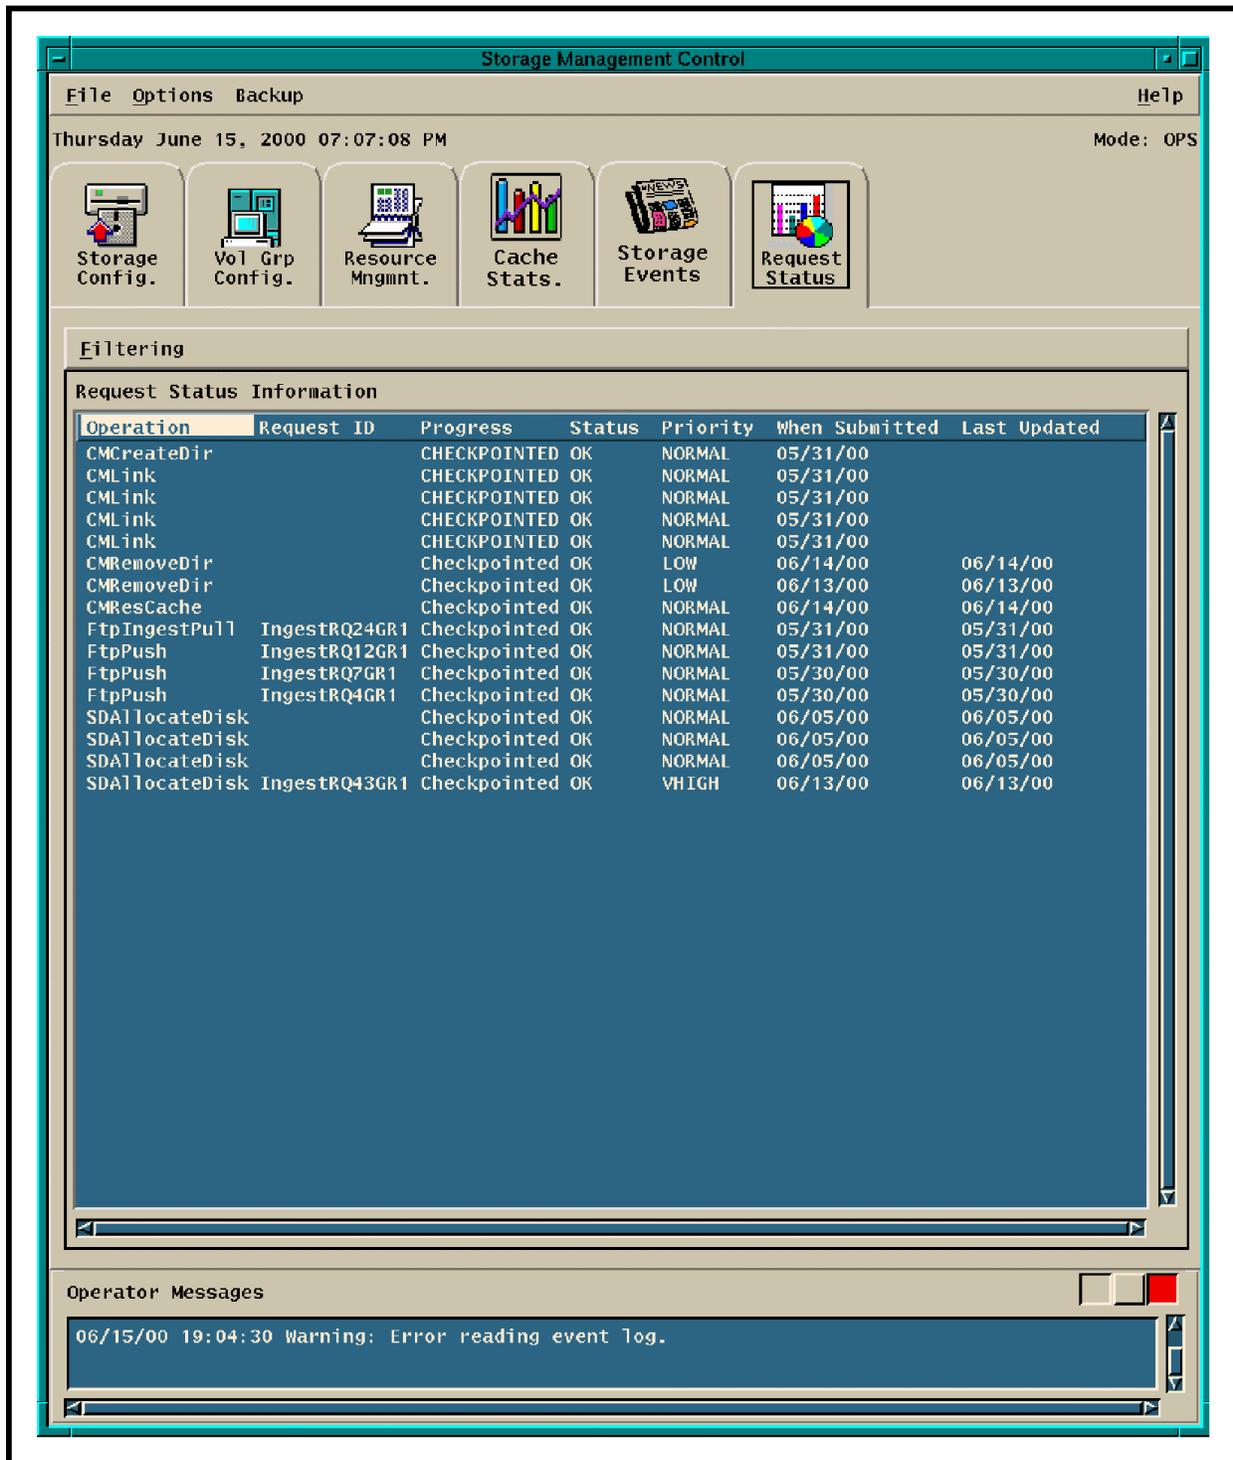

Figure 15. Request Status Tab (Storage Management Control GUI)
The **Request Status** tab (Figure 15) on the **Storage Management Control** GUI provides the Ingest/Distribution Technician with the ability to monitor processing activity in all of the storage management servers for a given mode. The **Request Status Information** table lists the requests that are currently being serviced by storage management servers and those that have been completed within the last 24 hours. It is possible to review the following information concerning any particular storage management request:
- The **Request Status** tab (Figure 15) is displayed.